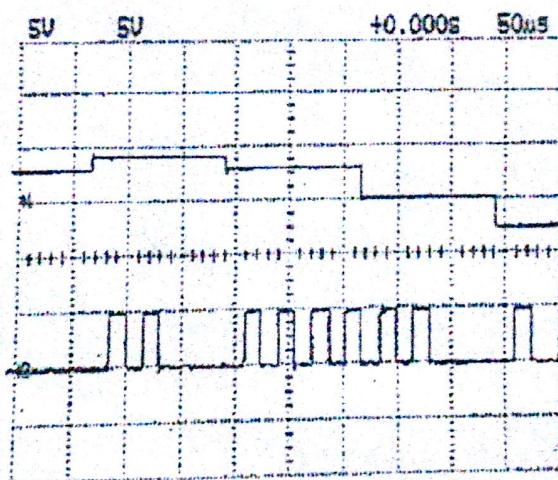

Figure 5-10. Phase size of Instantaneous sampling(above) & PCM direct signal (below)
- n Check how many number of pulse wave form of CH-2 would be included during CH-1 input wave form of oscilloscope. Enter 4-bit codes. (10)
- (12) If input probe of oscilloscope CH 1, 2 would be connected to J1 and PCM OUTPUT terminal of PCM 1 module, wave form of oscilloscope as figure 5-10 will be appeared. At that time, adjust TIME/DIV to 50[μ s] for making the size of quantization phase to appear on the oscilloscope screen with about four pieces.